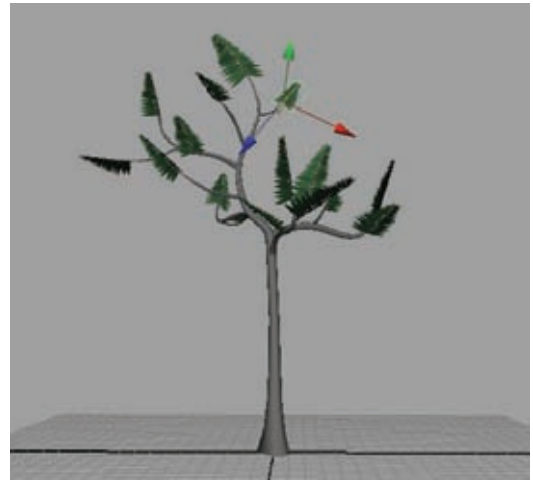

Figure 2.29
15. Position the tertiary branch onto the ends of one of your preexisting branches. Duplicate and position more branches around your tree. Focus on placing one at the tip of each main branch and have a couple more branches spaced around to fill the tree out (Figure 2.29). Don't forget, these are simply your third round of branches. You will make some new leaves to act as "filler" in the next steps.